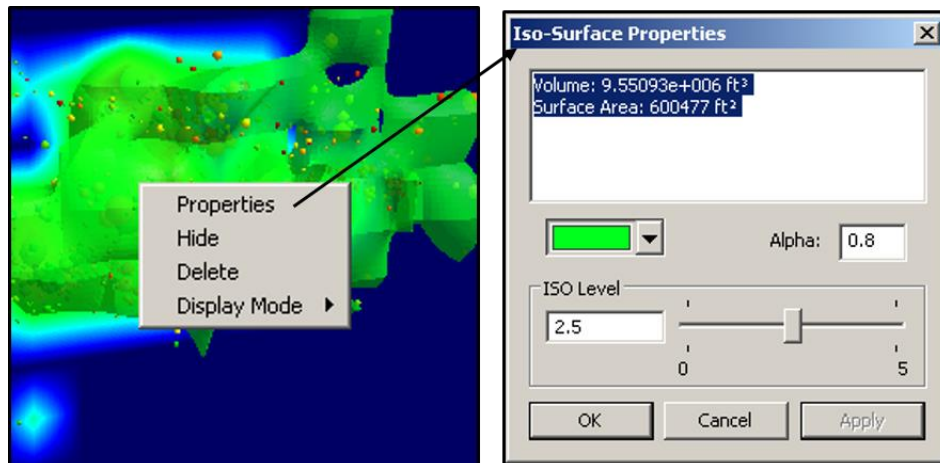

Figure 9-48: Isosurface right-click dropdown menu. The surface colour is consistent with the colourbar by default and can be overwritten by the user
- **Show Isosurface** - render an iso-surface at the medium value of the density field. The iso-surface value can be adjusted after generation (Figure 9-48). Note that the iso-surface cannot be adjusted after deleting or adjusting the density plane.